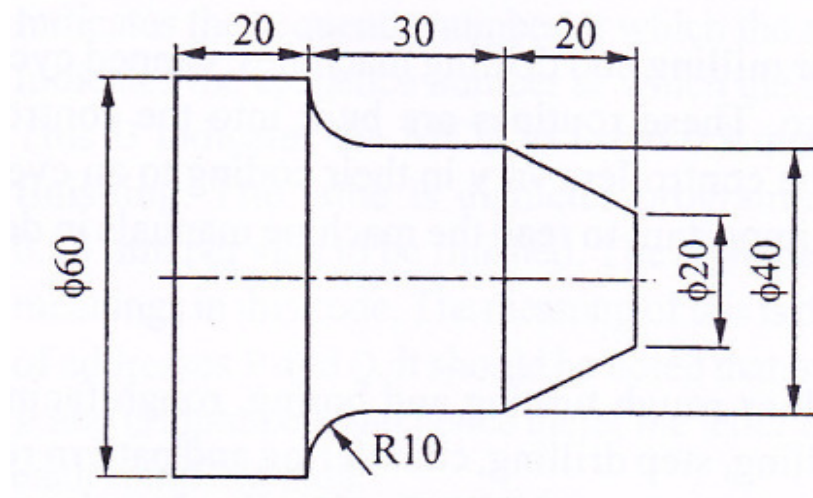

Fig. 2
- Q.5** (a) Write a manual part programme for finishing a forged component as shown in fig. 2. The speed and feed on the turning centre are 200 rpm and 0.35 mm/rev. Assume 1 mm material is to be removed radially from external diameter. **07**